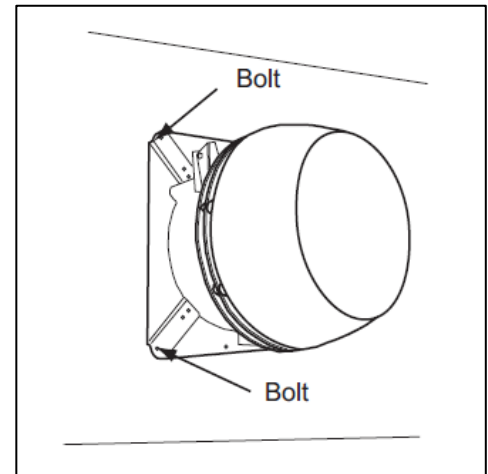

FIGURE 34
- To ease installation, detach the fan base by removing the bolts holding the hinges together. Center the fan base over the outlet and bolt the base onto the wall with the hinges pointing upwards. (**Figure 34**)